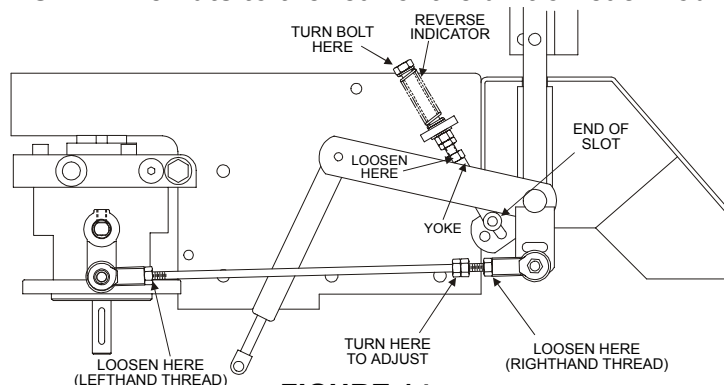

FIGURE 14
- c) Begin with either the left or right motion control lever. Move lever to the neutral position and pull lever back until the clevis pin (on arm below pivot shaft) contacts the end of the slot (just beginning to put pressure on spring), See Figure 14.
- Loosen lock nuts from the ball joints at each end of the RH pump control linkage (See Figure 14).
- h) Bring the RH motion control lever into the neutral position. Adjust RH pump control rod length by rotating the double nuts on the rod in the appropriate direction until the wheels slightly creep in reverse. (See Figure 14). Move the motion control lever to the reverse position and while applying slight pressure to the lever, allow the reverse indicator spring to bring the levers back to neutral. The wheel must stop turning or slightly creep in reverse. When adjustment is complete, tighten lock nuts onto ball joints.